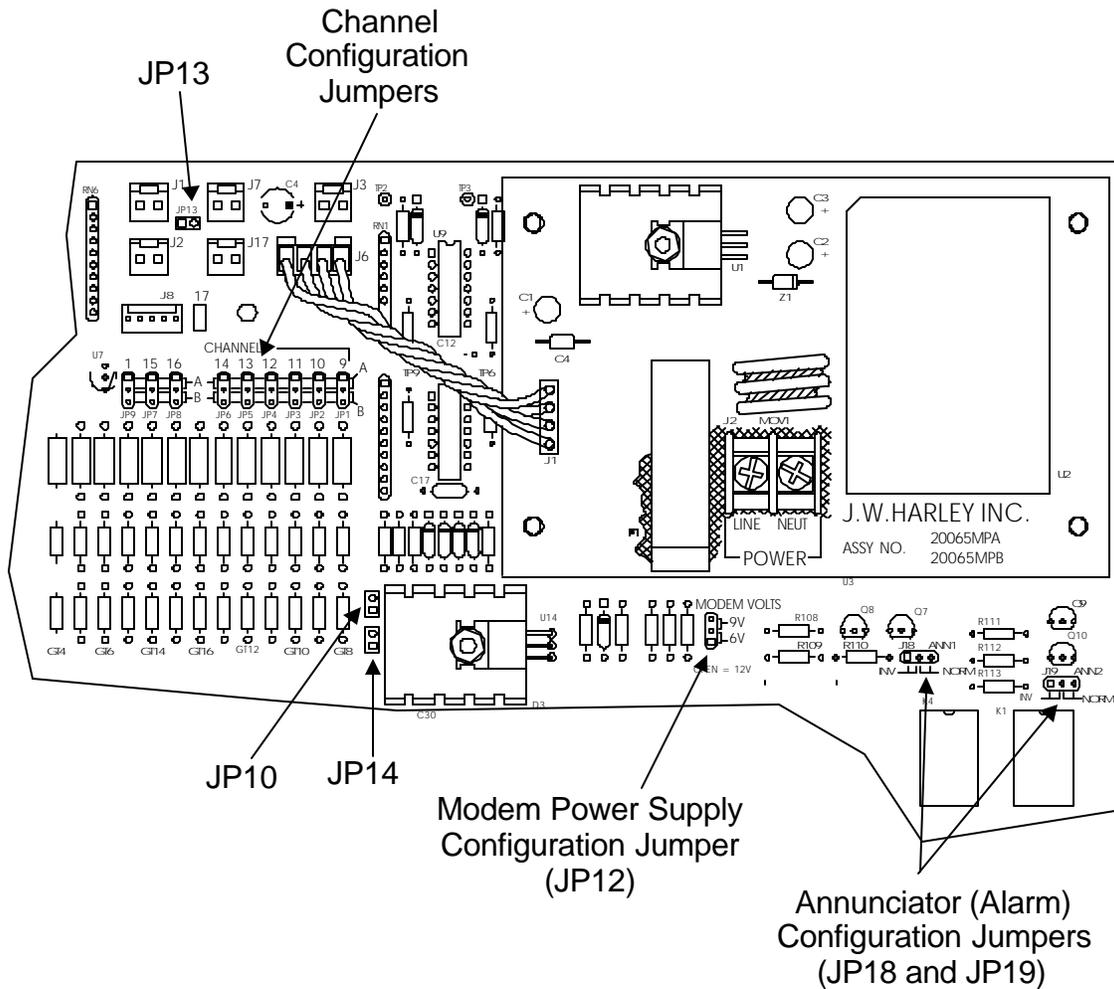

Figure 3-3: I/O Board Configuration Jumper Locations
Channels 9 through 12 are configurable for a 4-20 mA sensor input or a 5A/50A current input (as monitored through a CT). Channels 13 through 16 are configurable for a 4-20 mA sensor input or a voltage input. Refer to Table 3-1 for specific jumper numbers and positions for each channel. Refer to Figure 3-3 for A and B jumper positions.
**NOTE:** Refer to the modem specifications to determine the modem power supply requirements. Refer to Figure 3-3 for jumper location.
Jumpers JP18 and JP19 set the annunciator relay outputs to normal or inverted. Jumper JP13 configures the **Acknowledge Alarm** button. Refer to Table 3-3 for jumper positions. Refer to Figure 3-3 for jumper locations.